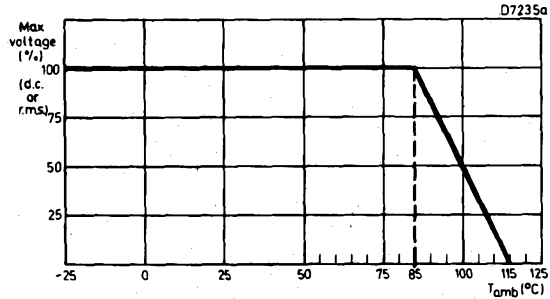

Fig. 2
- 5) The d. c. working voltage is the average value of the applied working voltage. For ambient temperatures higher than 85 °C the maximum values must be derated as indicated in Fig. 2.